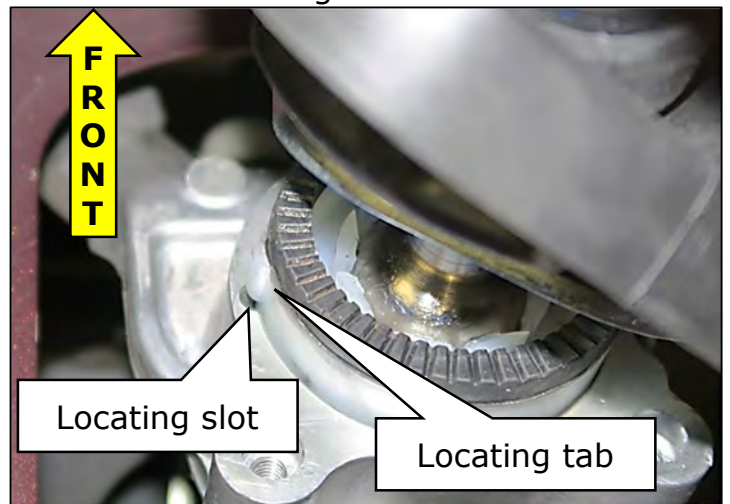

Figure 100
- Align the locating tab on white plastic collar with the slot on the transmission (Figure 100)